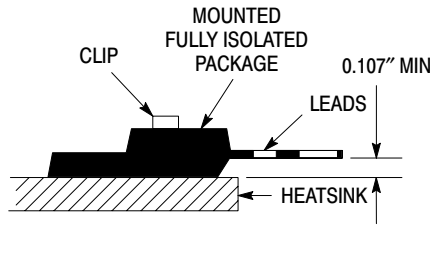

Figure 4. Clip Mounting Position for Isolation Test Number 2
1. UL Recognized mounting method is per Figure 4.
2. UL Recognized mounting method is per Figure 4.